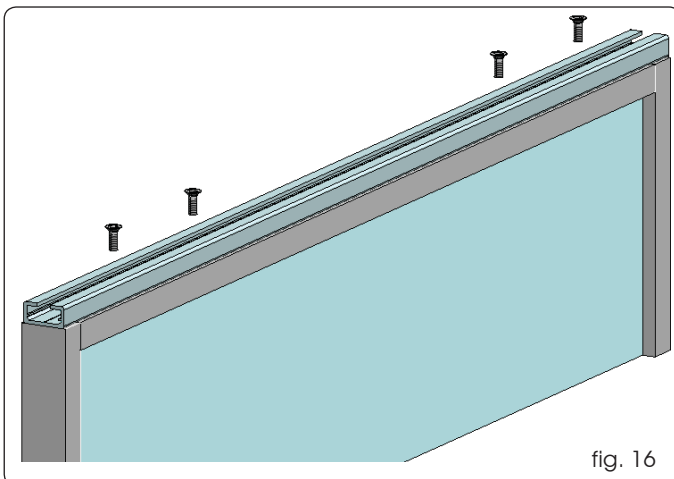

fig. 16
1. Secure to the leaf, the leaf fitting profile cut to the same length, and secure it with adequate screws on the upper part (fig. 16).